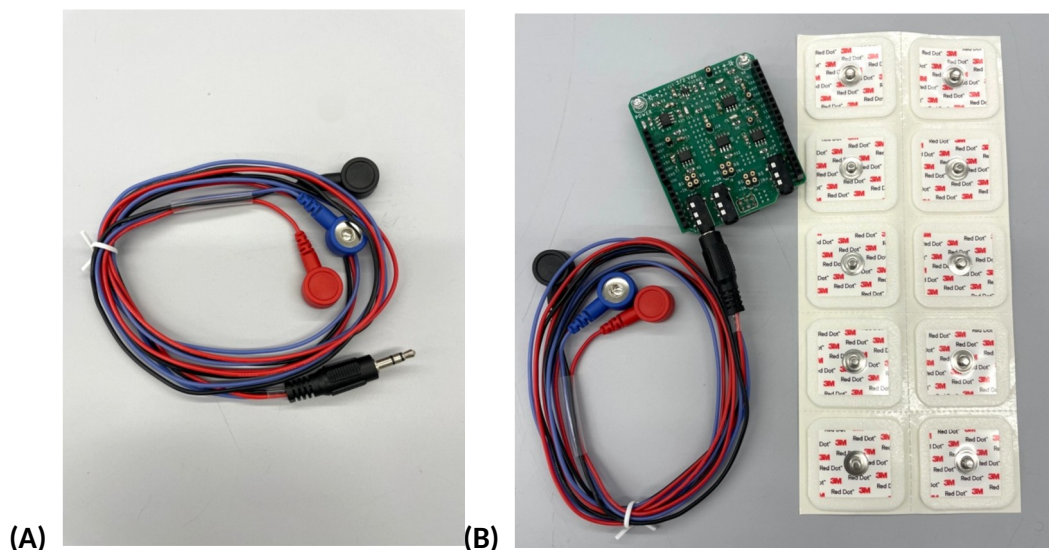

Figure 6. (A) Sensor cables (B) plugged into Ninetales ECG channel.
10. If instructors think your soldering job looks good, they will hand you three sets of sensor cables and ECG electrodes (Figure 6). The sensor cables will plug into the corresponding receptacle on Ninetales based on which biosignal you are measuring. The locations for the electrodes and sensor cables are shown in Table 3 on the following page.